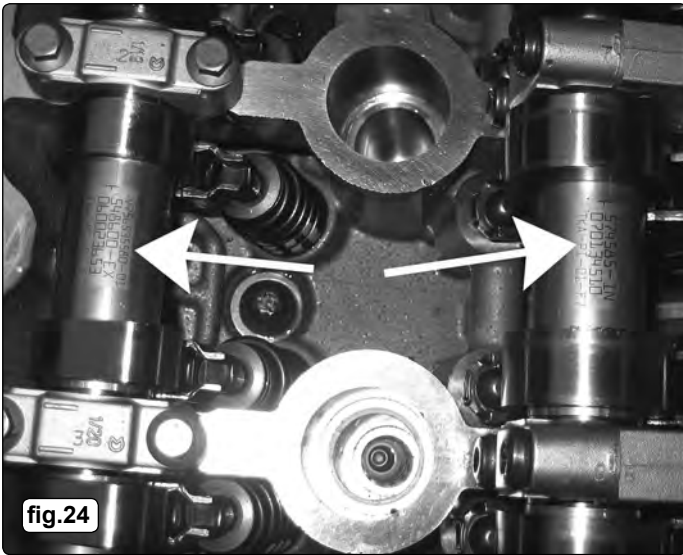

fig.24
3.4.6. Both camshafts are in the correct position when the markings **(IN)** on the inlet camshaft and **(EX)** on the exhaust camshaft point upwards (**fig.24**).